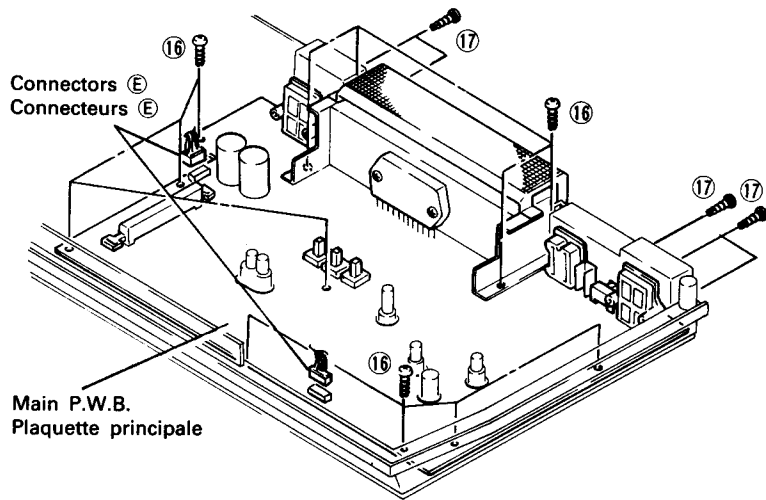

Fig. 10
13. Main P.W.B. (Fig. 10)
13. Plaquette principale (Fig. 10)